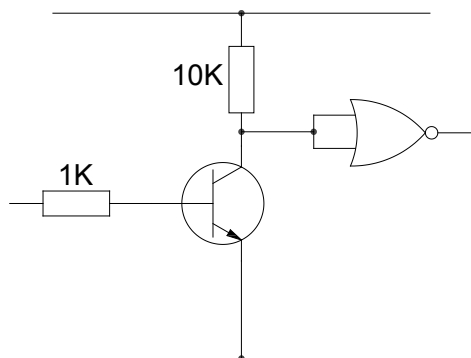

Fig. 6
- (b) An NPN transistor can be used as an input switch for a logic gate as shown in Fig. 6.
(ii) Describe the purpose of the 10K resistor in the circuit in Fig. 6.
(iii) Draw the circuit symbol for a logic gate that could replace the gate shown in Fig. 6.